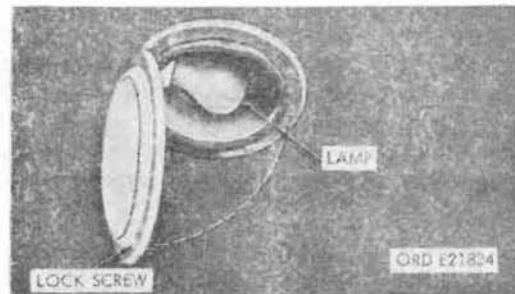

Figure 389. Dome light removal - 115 volt
(1) Removal (fig. 389).
(2) Installation.